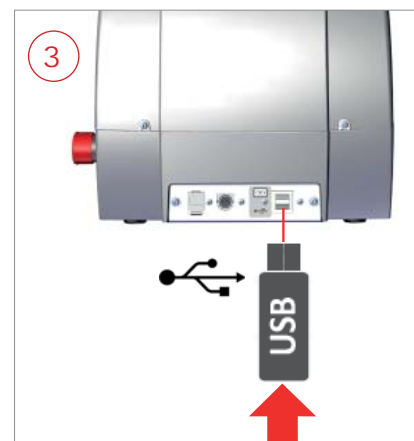

Fig. 15
- 3) Insert the USB PEN DRIVE into the special port on Futura AUTO (Fig. 15). Follow the instructions on the screen: tap the “RE-START FUTURA” button to re-start the Futura AUTO machine.